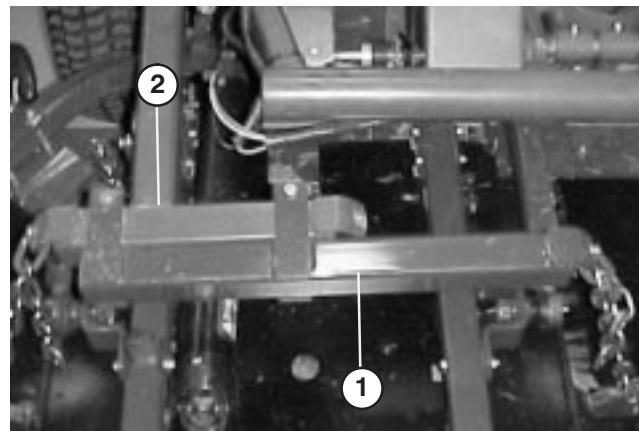

Figure 11
2. Slide front lift arm onto traction unit t-bar, positioning as shown in figure 11.
3. Secure front lift arm to t-bar with with (2) capscrews and locknuts.